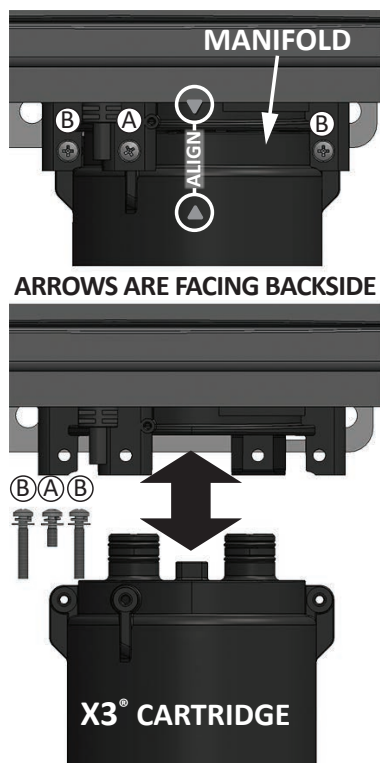
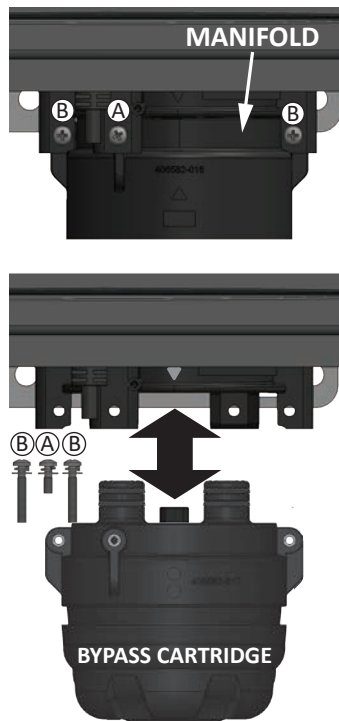

Figure 8 - X3® Cartridge
Figure 9 - Bypass Cartridge
- 4 Locate the three screws securing the X3®/Bypass cartridge. Remove the (A) M4-12mm screw and the two (B) M4-25mm screws from cartridge. Place screws aside in a safe place for reinstallation. See Figure 8 and Figure 9.
**NOTICE:** The X3® cartridge is keyed to only install in one direction. Align the ▲ on the cartridge with the ▼ on the manifold (arrows will be back facing for TM series heaters). When inserting the cartridge, push up until the screw holes align. Some resistance is normal. The bypass cartridge is not keyed and will install in either direction. Figure 8 and Figure 9.
- 8 Insert and snug all three screws by hand. Use a screwdriver to tighten the two (B) screws first and lastly tighten screw (A). **DO NOT** use a drill or impact driver to tighten the screws.